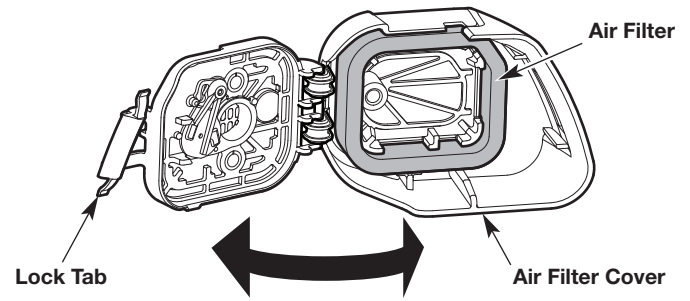

Fig. 26
1. Open the air filter cover: press in the lock tab and swing the air filter cover to the right (Fig. 26).
2. Remove the air filter from inside the air filter cover (Fig. 26).
6. Reinstall the air filter inside the air filter cover (Fig. 26).
7. Close the air filter cover: swing the air filter cover to the left and press it closed until the lock tab snaps into place (Fig. 26).